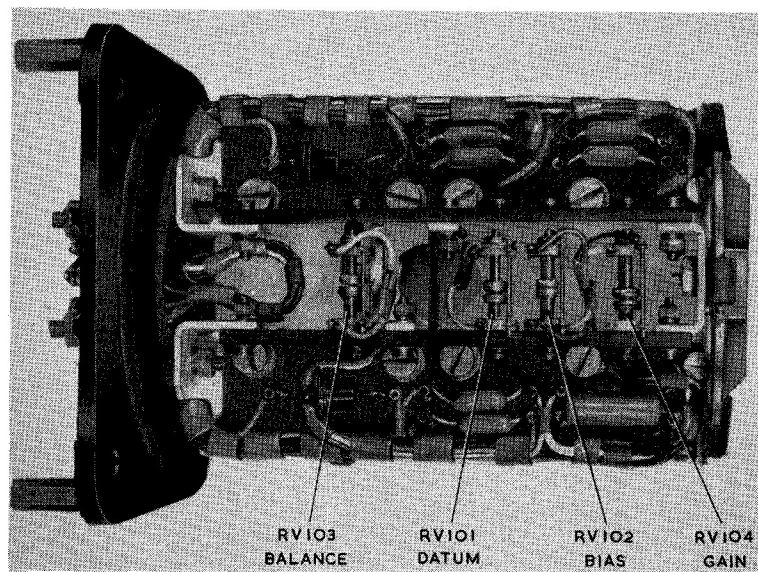
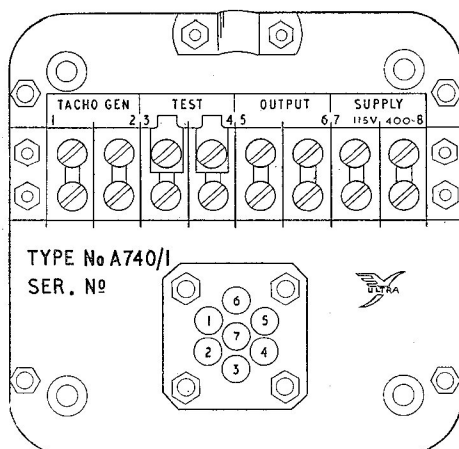

Fig. 2. Internal view, showing preset controls
Fig. 4. Terminal identification diagram
4. All the leads are brought through the base-plate via seven moisture-proof seals, and are taken to an eight-way terminal block illustrated in fig. 4. The side of the base-plate carrying the terminal block is enclosed by a removable protective cover. The unit is mounted by means of two mounting clamp assemblies which fit over the barrel of the casing. The assembly and wiring layout of the unit is shown in fig. 2.
6. The preset controls (fig. 2) which are provided within the scoop signalling unit are:
10. The terminal block connections (fig. 4) are as follows: